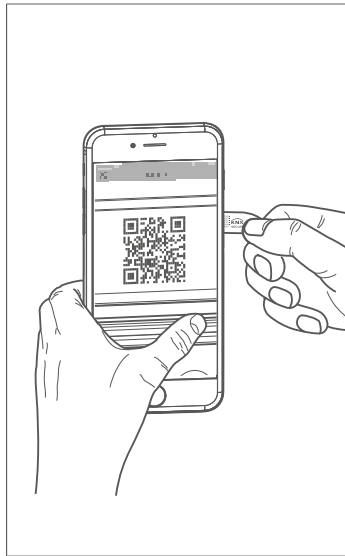
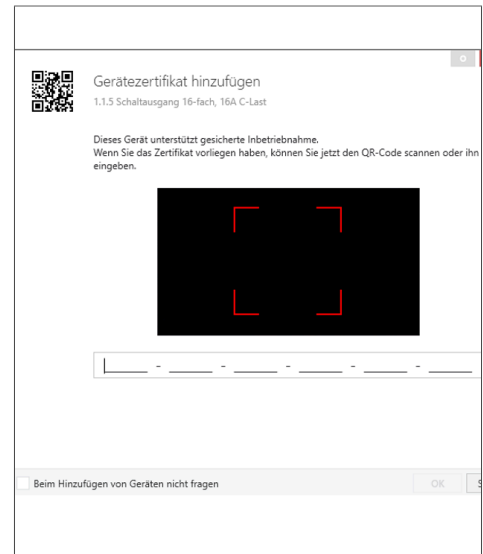

Fig. 14: Scanning the QR code
Fig. 15: Entering the QR code manually
- 2 Enter the device certificate (QR code) (Fig. 15), scan it (Fig. 14) or add it to the project in ETS.